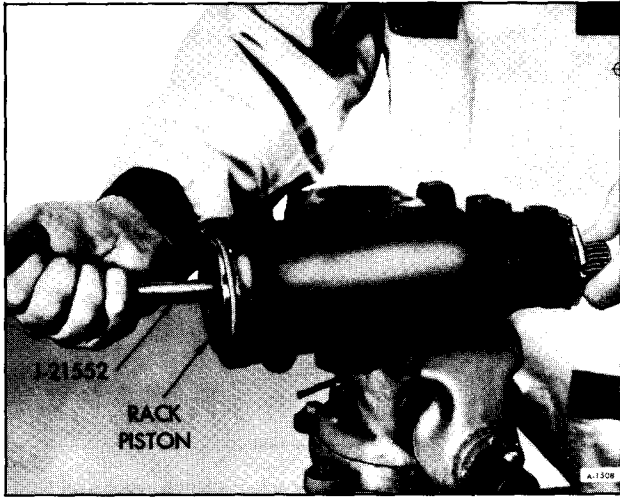

Figure 28—Removing Rack Piston
a. Insert Ball Retainer Tool J-21552 into the rack-piston bore with pilot of tool seated in the end of the worm (figure 28). Turn stub shaft counter-clockwise while holding tool tightly against worm. The rack-piston will be forced onto the tool. Hold tool and pull rack-piston farther onto tool to prevent end circuit balls from falling out.